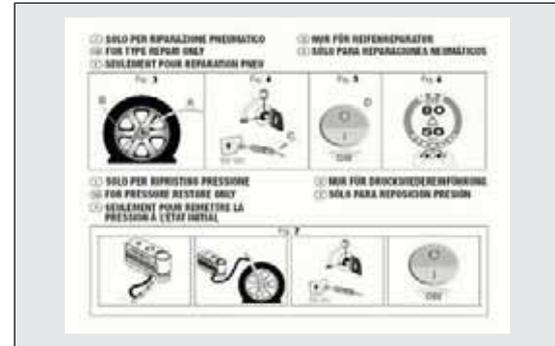

fig. 127
- instruction booklet (see fig. 127), to be used for prompt and proper use of the quick repair kit and to be then handed to the personnel charged with handling the treated tyre;